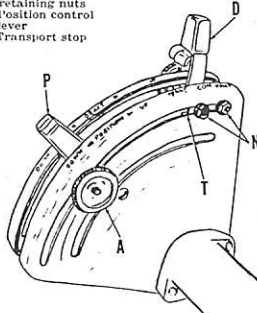
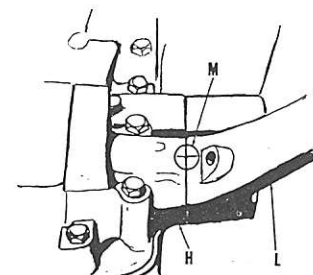
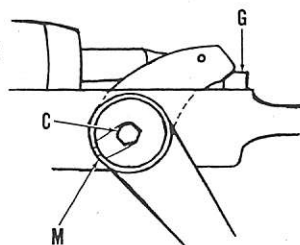

Fig. 277—View of control quadrant used on models without pressure control, showing transport stop.
Fig. 278—Place chisel marks (M) on lift arm (L) and cover (H) with rockshaft in transport position. Refer to text.
Fig. 280—Use gage block (G) or chisel marks (M) to position rockshaft in transport position. Refer to text.
245. TRANSPORT STOP ADJUSTMENT. On Models without pressure control, the transport stop (T—Fig. 277) should be adjusted to provide a full range of operation for the lift system rockshaft, allowing the control valve to return to neutral in the transport position, yet still provide
To adjust the transport stop, start the engine and run at slow idle speed. Move the position control lever (P) past transport stop (T) to "Constant Pumping" position. Engine should labor slightly and hydraulic pressure relief valve should sound. With position control lever in constant pumping position, scribe a line across the junction of one lift arm (L—Fig. 278) and housing (H) as shown at (M). Move the lever (P—Fig. 277) back down the quadrant, then back up to a position resting against the transport stop (T); the two marks (H—Fig. 278) should now be separated by a distance of 1/16-1/8 inch, if they are not, loosen the two nuts (N—Fig. 277) and slide the stop (T) on quadrant until the correct adjustment is obtained. With transport stop correctly positioned and lift arms in fully raised ("Transport") position, place chisel marks (M—Fig. 278) on housing (H) and lift arm (L) in a convenient place for future reference.
Position the rockshaft in transport position using the special Massey-Ferguson tool MFN-970, as shown at (G—Fig. 280). NOTE: Two different lift covers are used; before positioning the gage, measure front flange thickness of cover. If front flange is 7/8-inch thick, side of gage marked ".470" must face ram arm. If front flange is 1 1/8-inches thick, side marked ".636" must face ram arm. If the special gage is not available, align the previously scribed transport position alignment marks (M—Fig. 278), then tighten cap screw (C—Fig. 280) (or screws) in one end of rockshaft until shaft will maintain a fixed position with marks (M) aligned.